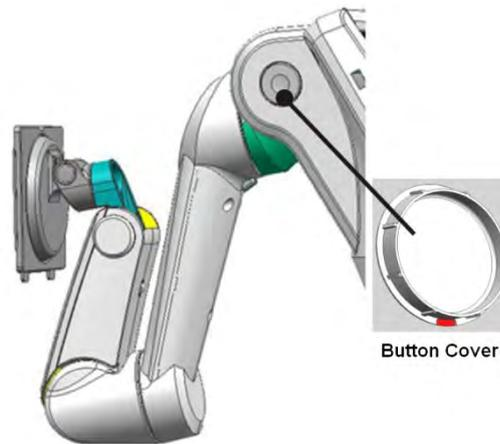

Fig.4-1 Removing the key cover
- a) After removing the packaging, remove the key cover from the lower arm, as shown in Fig. 4-1.